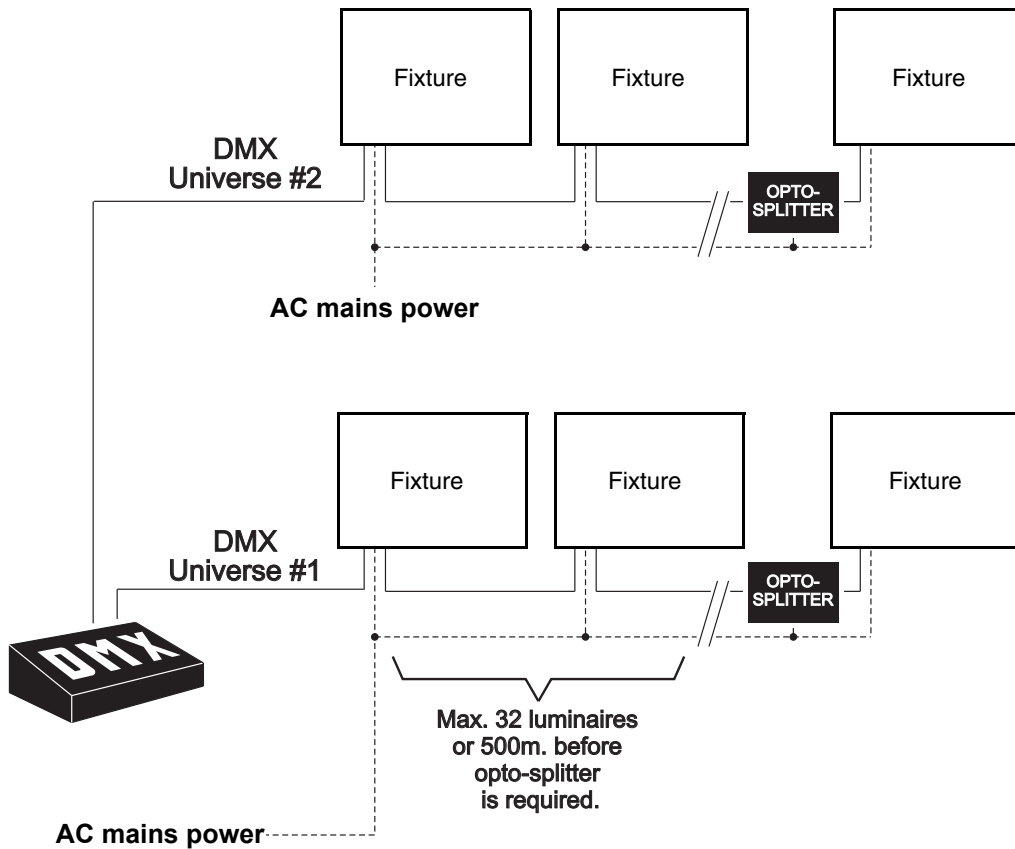

Figure 10: Schematic cable layout diagram
Figure 10 gives an overview of a suitable cable layout. The dotted lines represent AC mains power circuits. The solid lines represent the data link.
See Figure 10 on page 17 for a schematic diagram of cable layout. If you require help in planning or dimensioning the power distribution system, please contact your Martin supplier for assistance.
- Fixtures must be 'daisy-chained', i.e. the data cable must be connected in one single chain of fixtures as shown in Figure 10 on page 17.